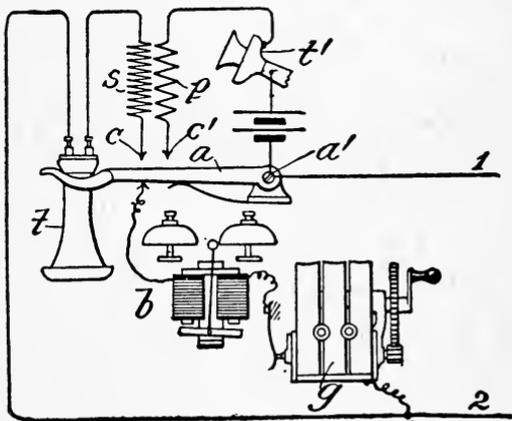

FIG. 119.
**215.** A complete telephone set, two of which may be used for connecting two distant places, is shown in diagram in fig. 119. This set